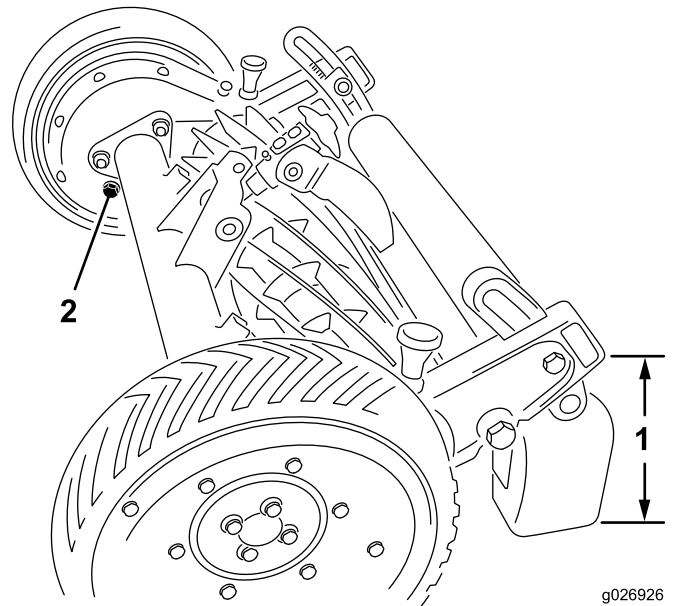

Figure 4
2. Raise and block the back of the mower until there is approximately 0.260 m (10-1/4 inches) between the bottom of the gear case extending behind the roller bracket and the level surface (Figure 4).
3. Remove the filler plug from inside of each the gear case (Figure 4). Check the oil level in the gear case: it should be level with the bottom of the filler hole. If the oil is level with bottom of the hole, reinstall filler plug.